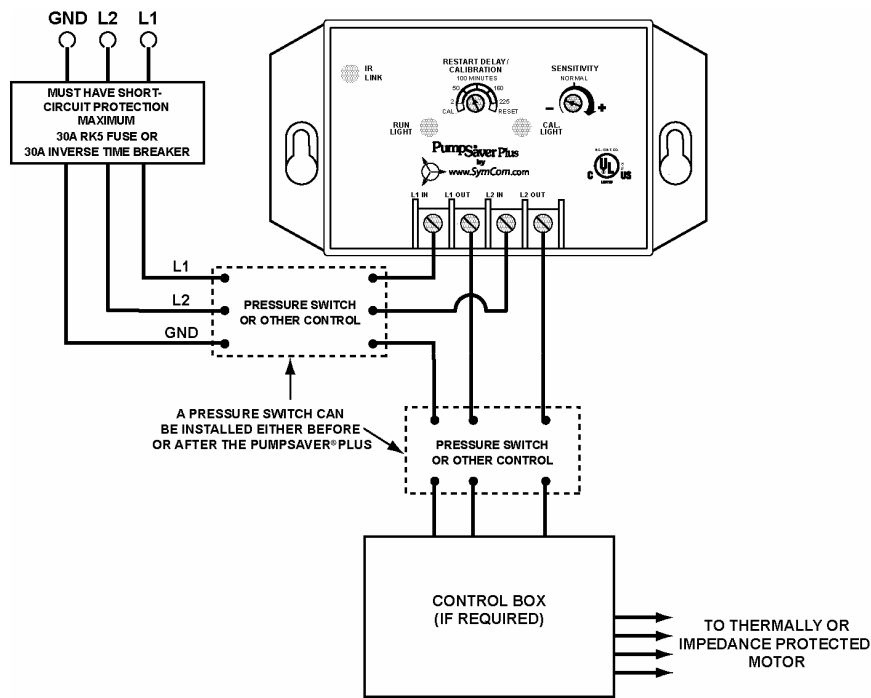

FIGURE 1: Typical Wiring Diagram
3. Connect the other line from the fused disconnect (ungrounded fused conductor) to the **L2 IN** terminal of the PumpSaver®Plus. Run a wire from the **L2 OUT** terminal to the other in-line controls such as pressure or float switches (see Figure 1).
- Typical wiring diagram – Figure 1